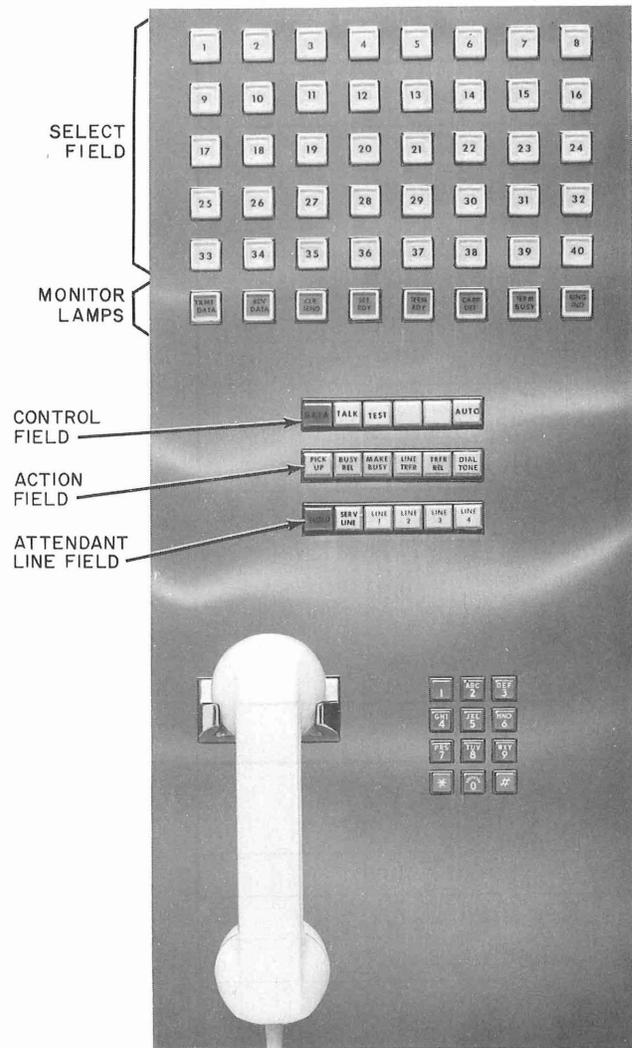

Fig. 9—Data Auxiliary Set 804J4
2.27 Data Auxiliary Set (DAS) 804J-type (Fig. 9) is available in four types. DAS 804J1 and
4.02 The **select field** (Fig. 9) lamps of DAS 804J-type may be used to check the status of each data set. Table D summarizes the data set status and the lamp indications for each status.